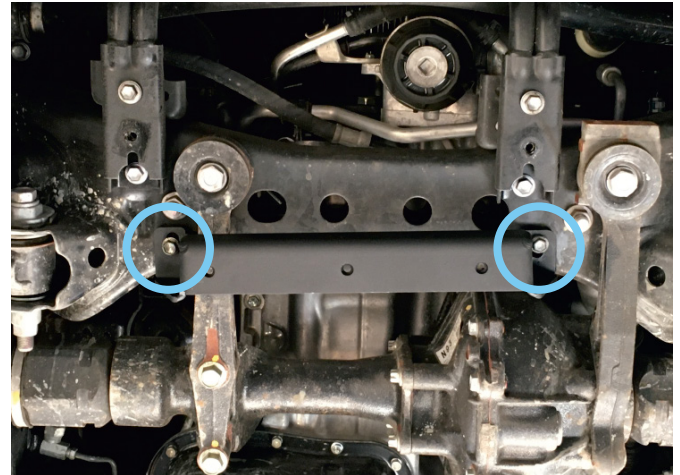

Fig.2
2. Install the center mounting bracket (item 3) using M8x30 bolts (item A), and M8 flat washers (item 8) as shown in fig.2.